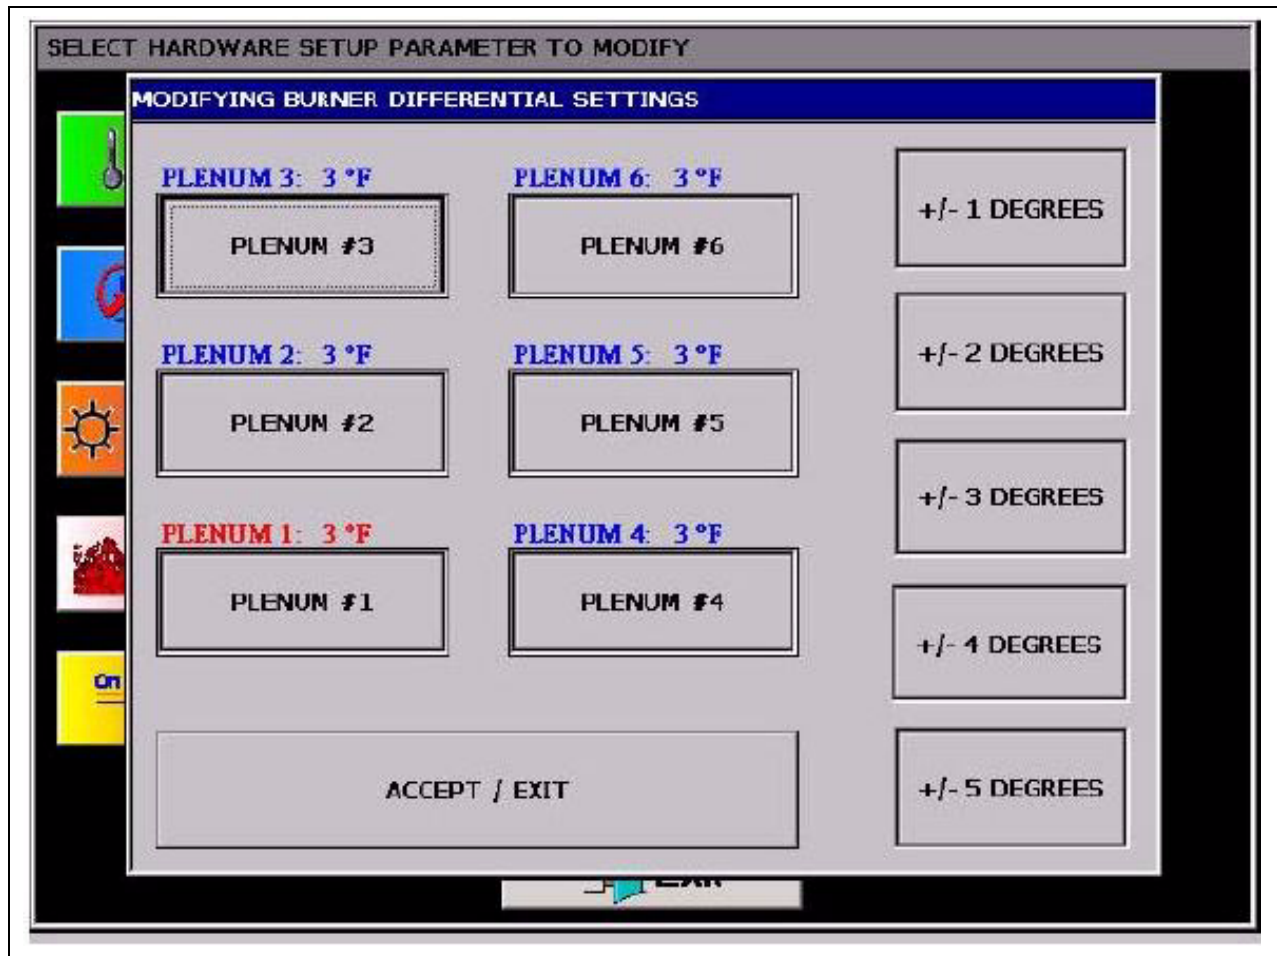

Figure 6I
8.  to adjust the switching range of the burner. (*See Figure 6I on Page 38.*) Default is 3°F (1°C). Tower dryers have just 1 plenum.